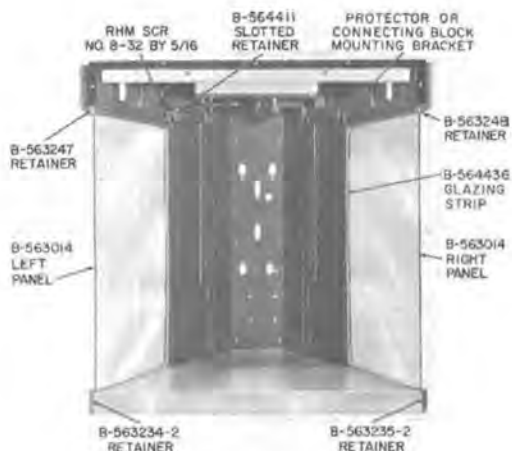

Fig. 19—KS-19426, List 1 Housing Showing Installation of Panels
- 3.59** If station protection is required, install 123A1A protector on the bracket provided in the rear of the housing (Fig. 19) and terminate station wiring on protector.